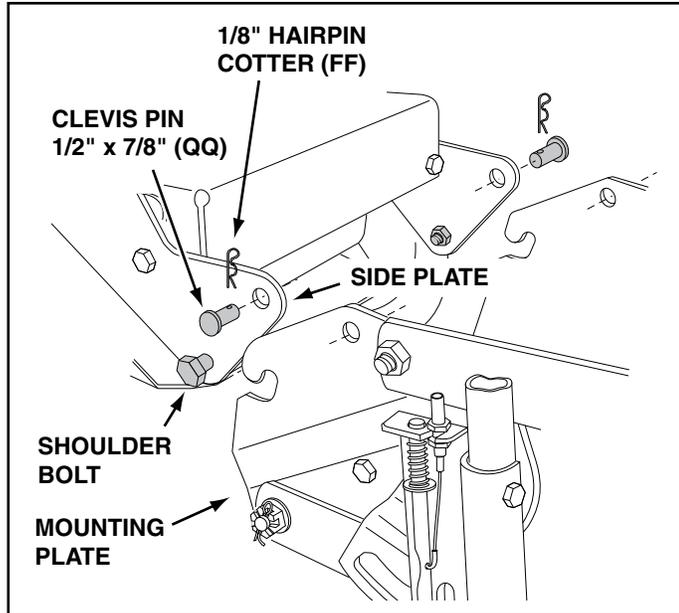

FIGURE 54 RIGHT SIDE VIEW
STEP 55: (SEE FIGURE 54)
- Delay installing the clevis pins (QQ) until you have assembled the belt as instructed in steps 56 and 57.